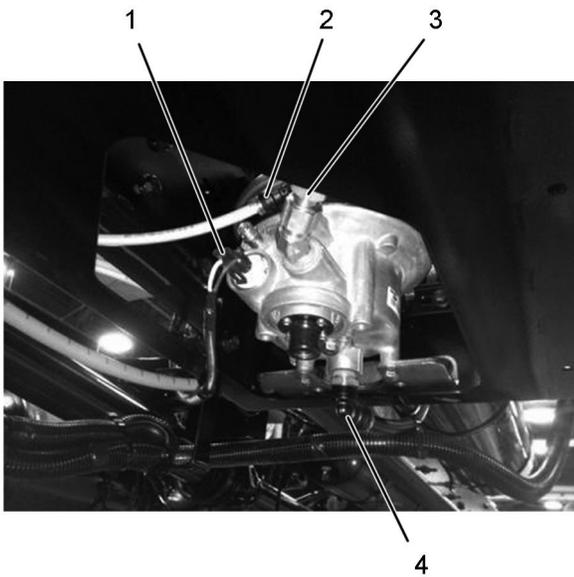

Figure 8. Connecting Air Drier.
13. Connect discharge line into push-to-connect line fitting (Figure 8, Item 4), 3/8-in GRAY air line.
14. Connect control line into push-to-connect line fitting (Figure 8, Item 2), 5/8-in BLACK air line.
15. Connect air drier harness connector (Figure 8, Item 1) onto air drier connector.